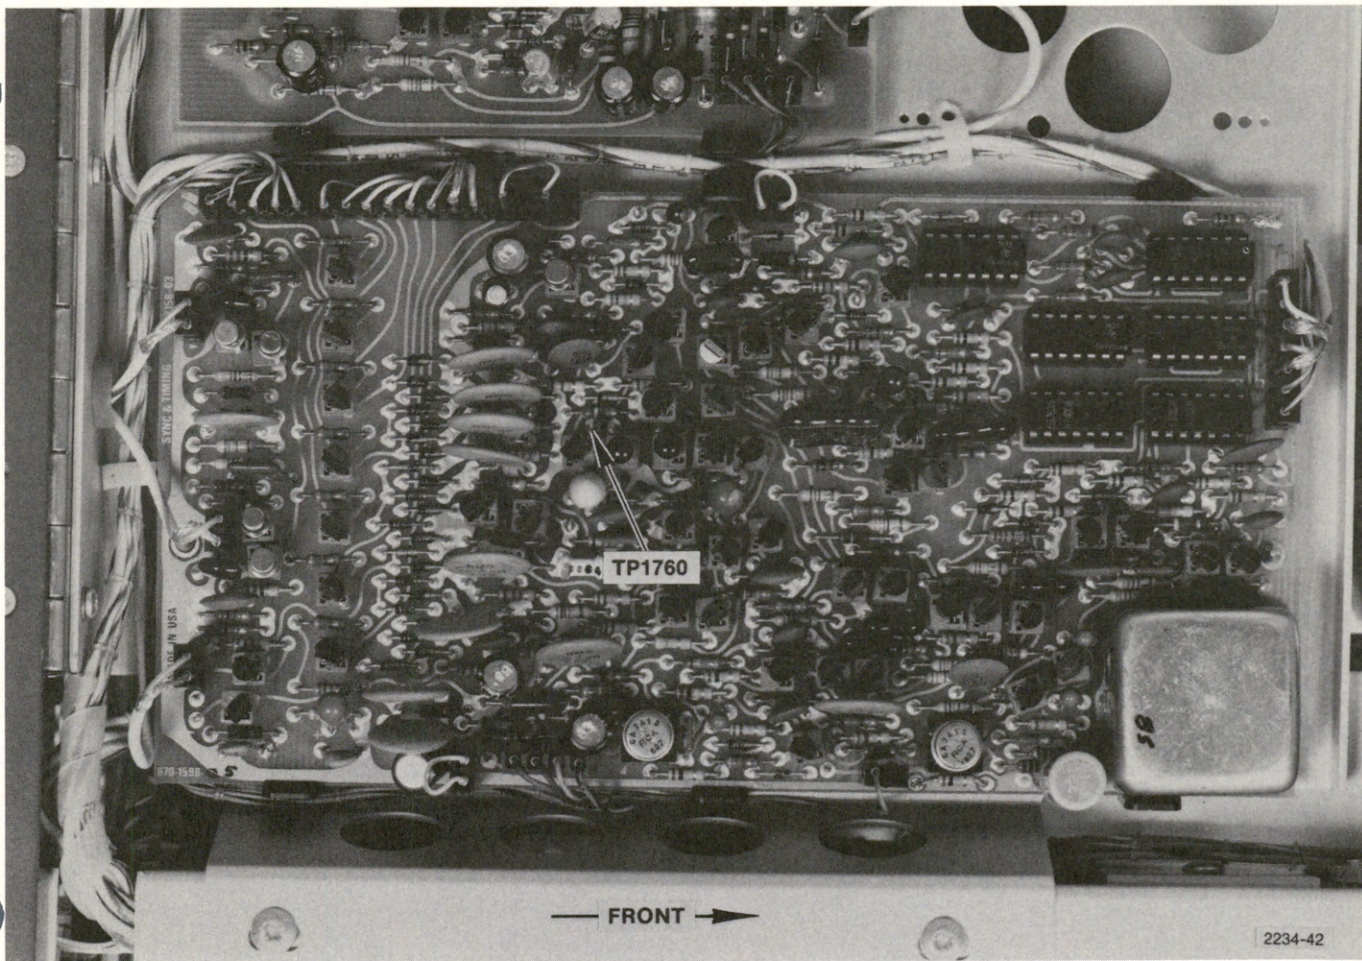

Fig. 6-26. Sync & Timing board showing test point location.
b. Connect the oscilloscope probe to TP1760 (see Fig. 6-26).